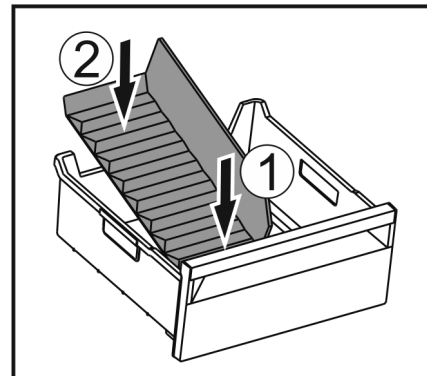

Fig. 148
- ▶ Insert the front part of the ice compartment divider. Fig. 148 (1)
- ▶ Lower the rear part of the ice compartment divider to the drawer bottom. Fig. 148 (2)